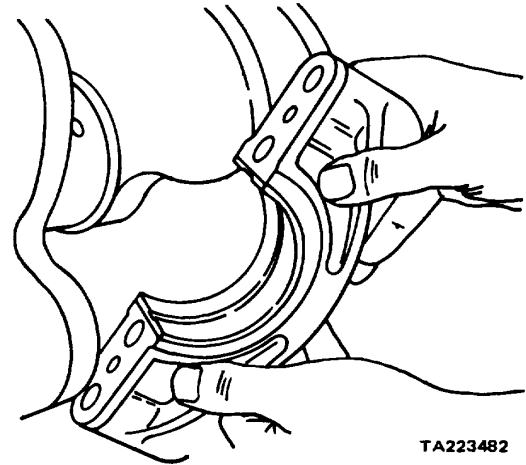

Figure 9-29. Checking Bearing Clearance with Shim Stock.
(1) Oil the bearing and bearing journal with engine oil.
(2) Position a strip of 0.003-inch feeler gage, 1/2 inch long, on the bearing cap (fig. 9-29).
(3) Install the cap on the block; secure with the screws and lockwashers. Tighten the screws to 85 to 95 ft/lbs torque.
(4) Try to turn the crankshaft by hand. If the crankshaft will not turn or a definite drag is felt, bearing-to-bearing journal clearance is within tolerance. Remove the shim stock and reinstall the bearing caps.